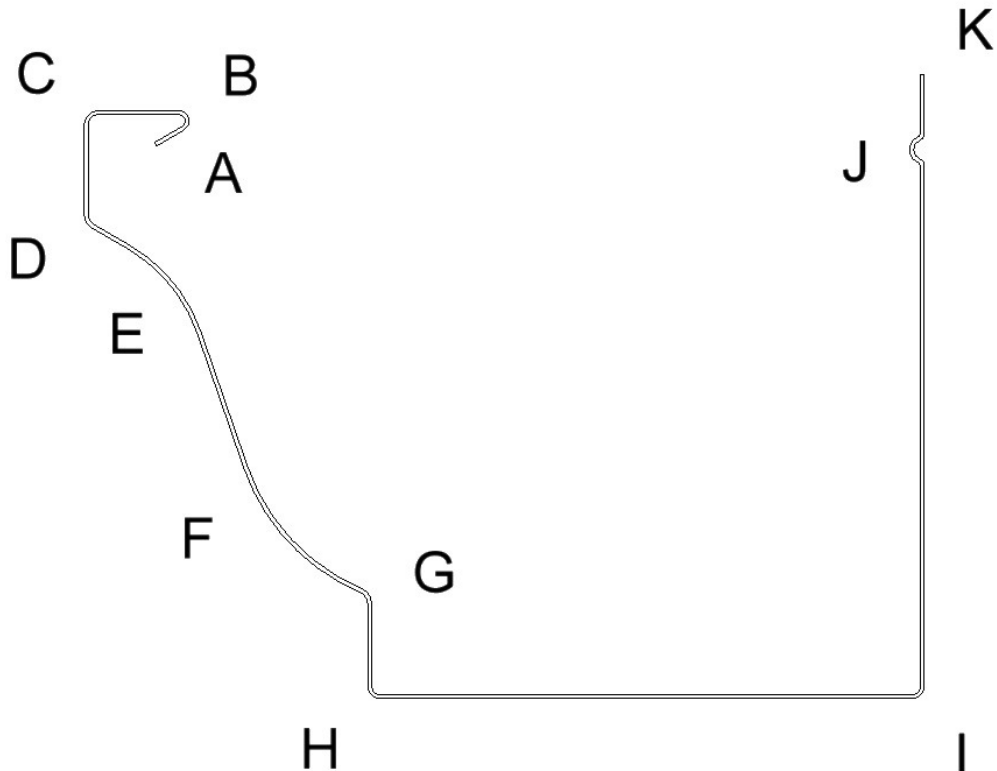

Figure 66: Points on Gutter Profile
- Check the inside of the gutter at points “H”, “I” & “D” (Figure 66) for any double track cause by the skate forming rollers and face assembly.